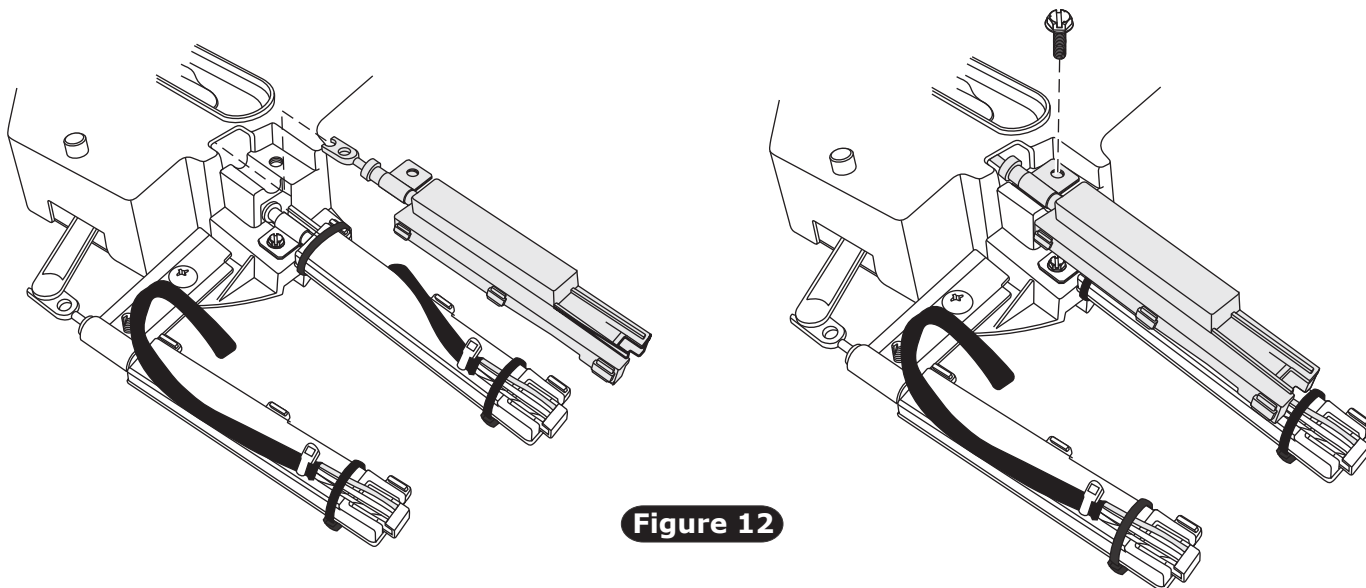

Figure 12
3. Secure the cable converter assembly onto the OEM control panel using the OEM screw in the OEM cable clamp mounting location (See Figure 12, below).
5. Secure the cable converter lever push rod onto the OEM cable mounting stud using a 3/16" push-on ring as shown in Figure 12, below.